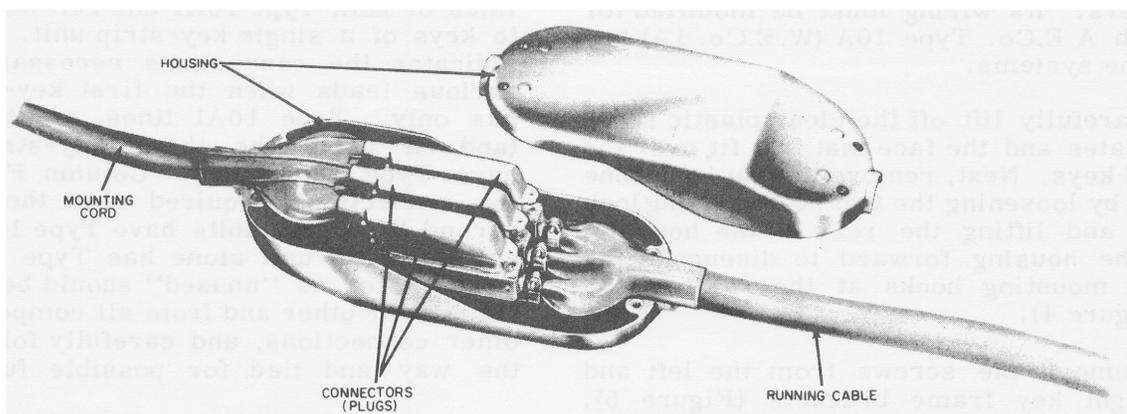

Figure 6. Type 860A Telephone Mounting Cord Plugs Connected to Running Cable Receptacles (Cover Off).
2.07 The running cable is normally furnished in 50-foot lengths. One end is terminated with three 50-terminal receptacles for connection to the three 50-terminal plugs of the Type 860A telephone mounting cord (Figure 6). The opposite end of the running cable has no special termination; the 150 conductors are individually insulated and color-coded for connection to the relay equipment. Special running cables, 100 feet long, can be furnished if desired; these cables have three 50-terminal receptacles at each end, and can be cut to
5.01 The Type 860A key telephone should be located as directed by the customer. The telephone mounting cord has three 50-terminal plugs at the end away from the telephone for direct connection to the receptacles of the running cable. This connection between the mounting cord plugs and the running cable receptacles may be enclosed and protected by an aluminum housing (for terminal connectors) number FD-1038-BG (Figure 6). Attach one-half of this fitting to some convenient surface (wall or floor); install the plugs and receptacles, place the cover half of the fitting in position, and fasten. An over-the-floor duct, just large enough to accommodate a running cable, is also available.